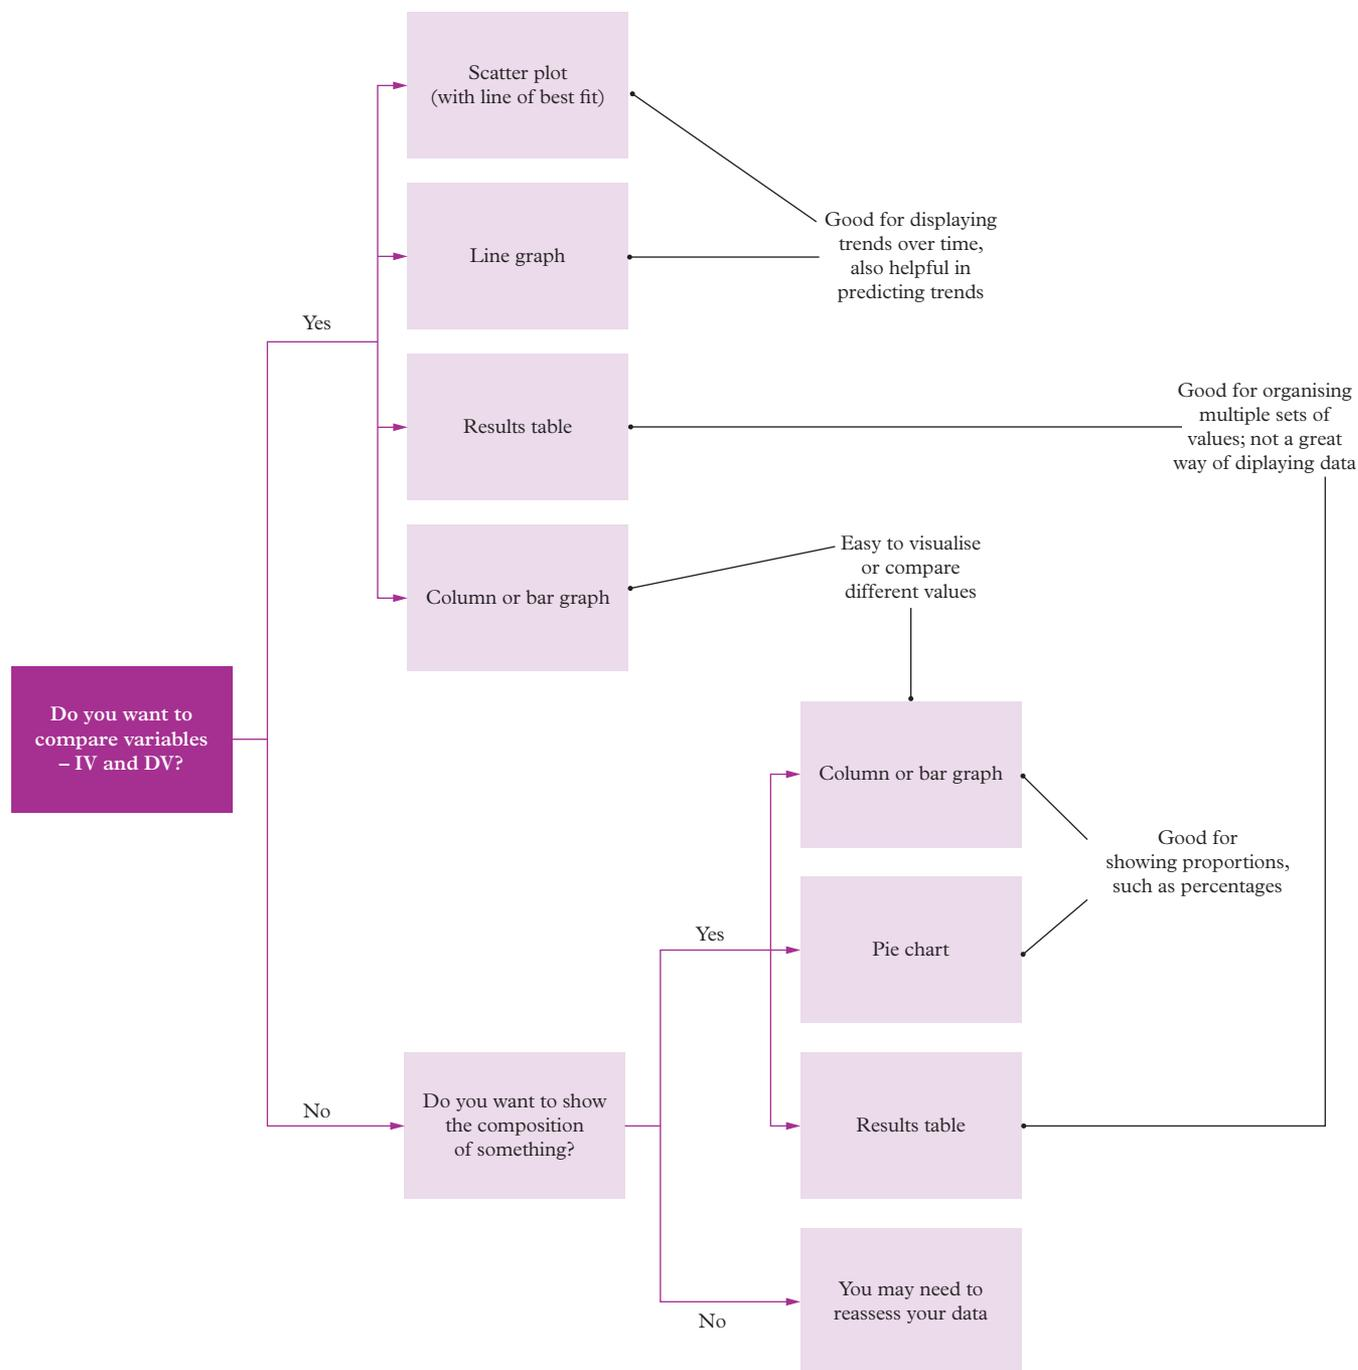

FIGURE 2 A flow chart to assist your decision on how you will display your data
The way in which you display your data is important; some graphs cannot be used for a particular purpose. For example, you cannot use pie charts to compare data. The flow chart in Figure 2 summarises different methods of displaying data depending on how you wish to use the information.
Step 1: Use the flow chart in Figure 2 to determine which graph type best suits the data.	The data has variables to compare, so we could use a line graph or a bar chart. However, there is also a distinct relationship between the mass at the cathode and the distance between the electrodes. This relationship is more evident when displayed through a line graph instead of a bar chart.